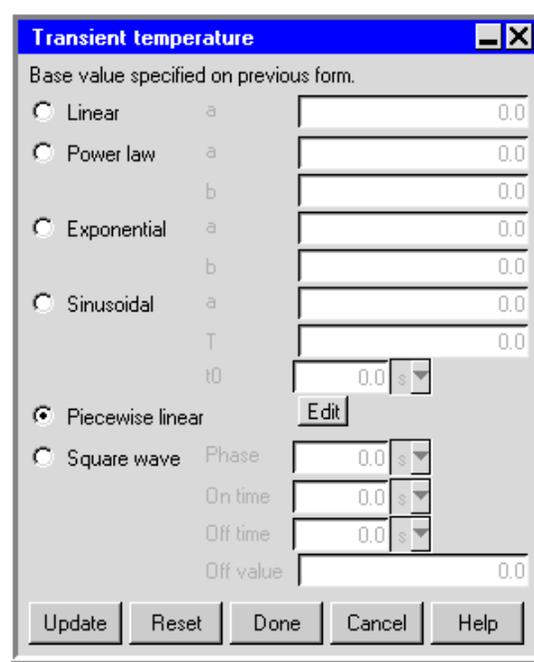
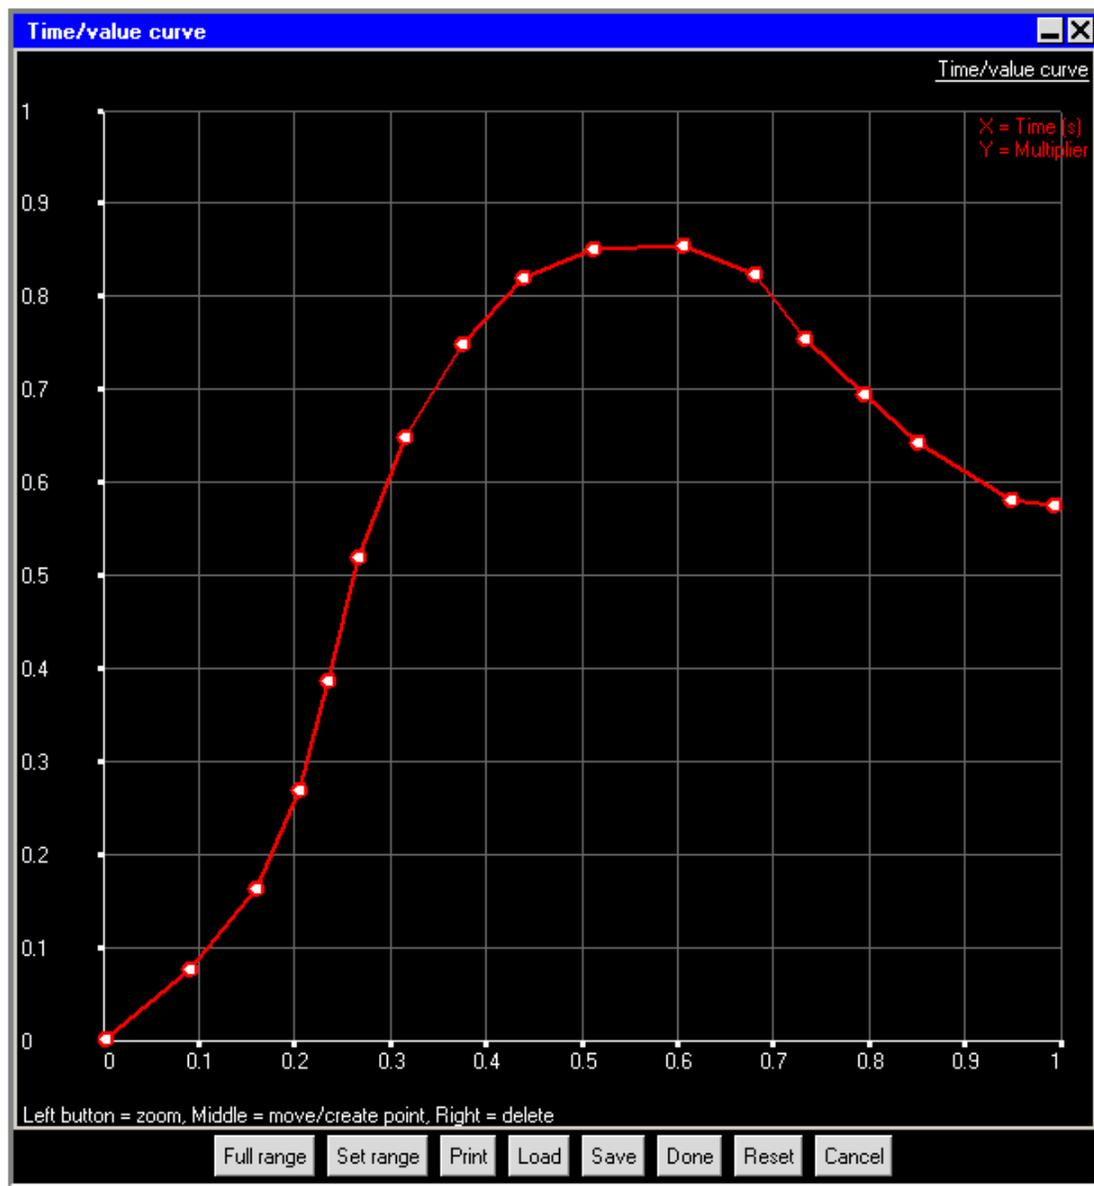
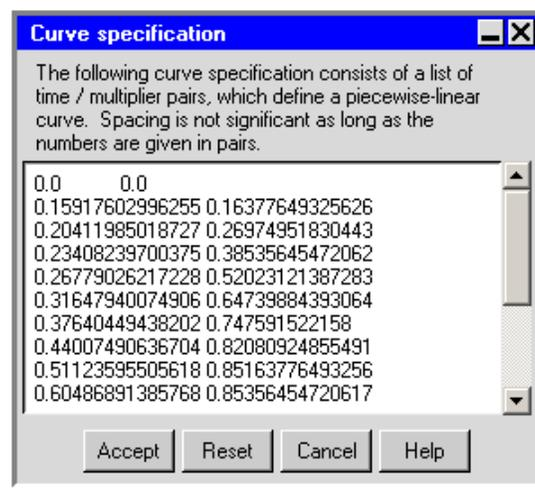

Figure 20.1.6: The Transient temperature Panel
Figure 20.2.3: The Time/value curve Graphics Display and Control Window
Figure 20.2.5: The Curve specification Panel
5. To define the variation of ambient temperature as a function of time, select Transient next to Temperature, and then click Edit. This will open the Transient temperature panel shown in Figure 20.1.6.
- **Solid or fluid block:** Specify the total power as a function of time by selecting the **Transient** option in the **Properties** tab of the **Blocks** panel (see Chapter 8) and clicking **Edit**. The **Transient power** panel used to define the transient power of the block is very similar to the **Transient temperature** panel shown in Figure 20.1.6. You must also specify the start time t_S and the end time t_E for the transient simulation for the block.
- **Hollow block:** Specify the species concentrations as a function of time (see Chapter 21 on species transport). Select **Species** in the **Blocks** panel and click the **Edit** button to open the **Species concentrations** panel. Select **Transient** for the desired species and click **Edit** to open the **Transient species** panel. The **Transient species** panel is used to define the transient species concentrations for the block and is very similar to the **Transient temperature** panel shown in Figure 20.1.6. You must also specify the start time t_S and the end time t_E for the transient simulation for the block.
- **Fan:** Specify the transient strength of a characteristic curve fan by turning on **Transient strength** in the **Properties** tab of the **Fans** panel (see Chapter 9) and clicking **Edit**. The **Transient fan strength** panel used to define the transient strength of the fan is similar to the **Transient temperature** panel shown in Figure 20.1.6, except that it contains only the **Piecewise linear** and **Square wave** options.
- **Opening:** For a free opening, you can specify the static pressure, temperature, x velocity, y velocity, or z velocity for flow across the opening as a function of time, by turning on the **Transient** option in the **Properties** tab of the **Openings** panel (see Chapter 11) and clicking **Edit**. The **Transient pressure**, **Transient temperature**, **Transient X velocity**, **Transient Y velocity**, and **Transient Z velocity** panels are very similar to the **Transient temperature** panel shown in Figure 20.1.6. You must also specify the start time **tS** and the end time **tE** for the transient simulation for the opening.
- **Wall:** You can specify the rate of heat transfer through the wall or the temperature on the outer surface of the wall as a function of time, by turning on the **Transient** option in the **Properties** tab of the **Walls** panel (see Chapter 11) and clicking **Edit**. You can also specify the heat transfer coefficient as a function of time by turning on the **Transient** option in the **Wall external thermal conditions** panel. To open the **Wall external thermal conditions** panel, select **External conditions** in the **Walls** panel and click **Edit**. The **Transient power/area**, **Transient temperature**, and **Transient heat tr coeff** panels are very similar to the **Transient temperature** panel shown in Figure 20.1.6. You must also specify the start time **tS** and the end time **tE** for the transient simulation for the wall.
- **Conducting thick partition:** Specify the total power as a function of time by selecting **Transient** in the **Properties** tab of the **Partitions** panel (see Chapter 14) and clicking **Edit**. The **Transient power** panel used to define the transient power of the partition is very similar to the **Transient temperature** panel shown in Figure 20.1.6. You must also specify the start time **tS** and the end time **tE** for the transient simulation for the partition.
is very similar to the **Transient temperature** panel shown in Figure 20.1.6. You must also specify the start time t_S and the end time t_E for the transient simulation for the source.
- **Resistance:** Specify the total power as a function of time by selecting **Transient** in the **Properties** tab of the **Resistances** panel (see Chapter 16) and clicking **Edit**. The **Transient power** panel used to define the transient power of the resistance is very similar to the **Transient temperature** panel shown in Figure 20.1.6. You must also specify the start time t_S and the end time t_E for the transient simulation for the resistance.
You can specify a piecewise linear variation of a variable with time using the Time/value curve graphics display and control window (Figure 20.2.3). To open the Time/value curve window, select **Piecewise linear** in the **Transient temperature** panel (Figure 20.1.6) or in any similar transient parameter panel, and click **Edit**. Select **Graph editor** from the resulting list.
Click **Done** when you have finished creating the curve; this will store the curve and close the **Time/value curve** graphics display and control window. Once the curve is defined, you can view the pairs of coordinates defining the curve in the **Curve specification** panel. See Figure 20.2.5 for the pairs of coordinates for the curve shown in Figure 20.2.3.
You can define a piecewise linear variation of a variable with time using the **Curve specification** panel (Figure 20.2.5). To open the **Curve specification** panel, select **Piecewise linear** in the **Transient temperature** panel (Figure 20.1.6) or in any similar transient parameter panel, and click **Edit**. Select **Text editor** from the resulting list.
Once the pairs of coordinates have been entered, you can view the piecewise linear curve in the **Time/value curve** graphics display and control window. See Figure 20.2.3 for the piecewise linear curve for the values shown in Figure 20.2.5.